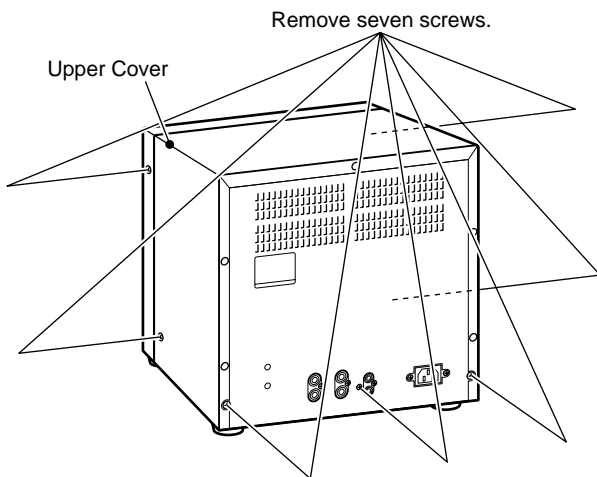

Fig. 2-1
- Referring to Fig. 2-1, remove seven screws that secure the Upper Cover and remove the Upper Cover.